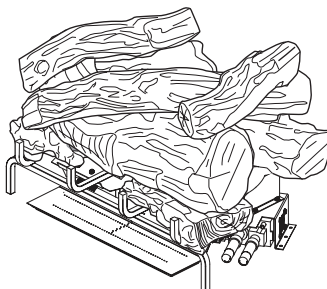

Figure 26 - Final Assembly
8. Final Assembly is shown in Figure 26, page 19. See Figure 27, page 19 for additional views.